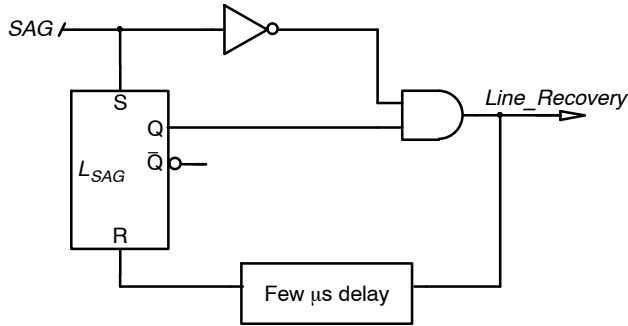

Figure 20. “Line\_Recovery” Signal
- When the soft-stop sequence ends, the PFC stops operating until the  $T_{BUV}$  delay has elapsed (515 ms typically). However, if the BUV protection trips during a line sag condition, the  $T_{BUV}$  delay is bypassed and operation immediately resumes when the line recovers. The wakeup information is provided by signal “Line\_Recovery” generated by the line-sag block (see Figure 20). This enables a rapid operation recovery when the line fault is over.
When a line-sag condition is detected, the NCP1618 starts a soft-stop sequence to gradually discharge  $V_{CONTROL}$  down-to-zero and hence, to smoothly stop operation. It also disables the CCM mode to reduce more rapidly the power delivery during the line-sag period. When the line recovers, it is required to restart the operation as soon as possible and in a clean manner. Signal “Line\_Recovery” of Figure 20 provides the wakeup information.